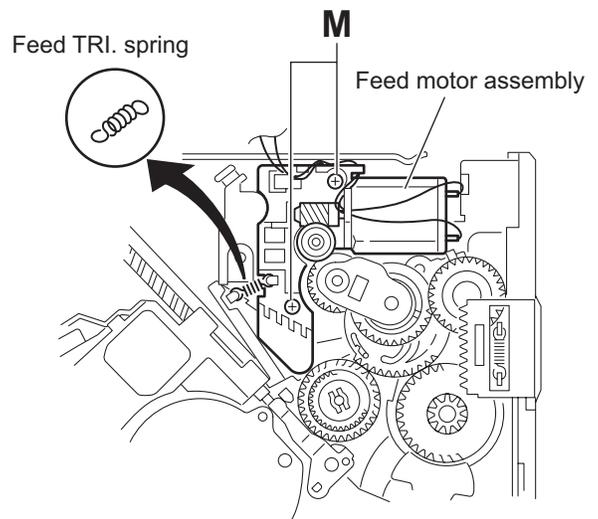

Fig.21
3.2.11 Removing the feed motor assembly (See Fig.21 and 22)
(See Fig.21.)
- Remove the two screws **M** attaching the feed motor assembly. (See Fig.21.)